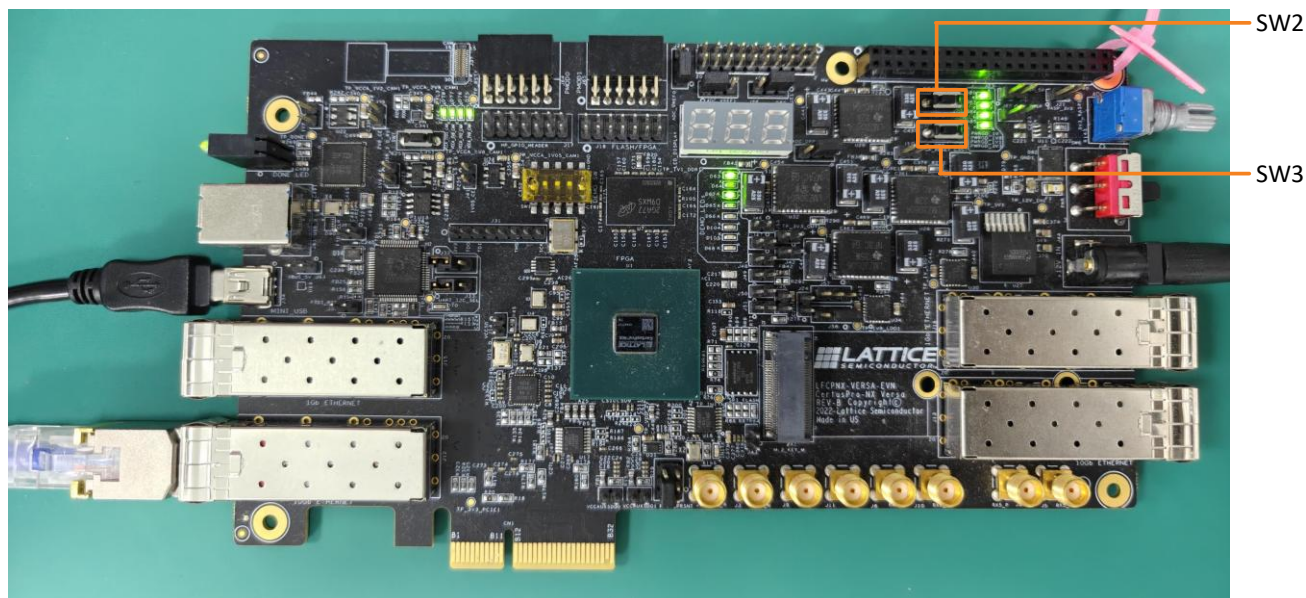

Figure 6.24. SW3 Reset Button and SW2 PROGRAMN Button
20. Press **SW3 Reset** button on the board as highlighted in Figure 6.24.